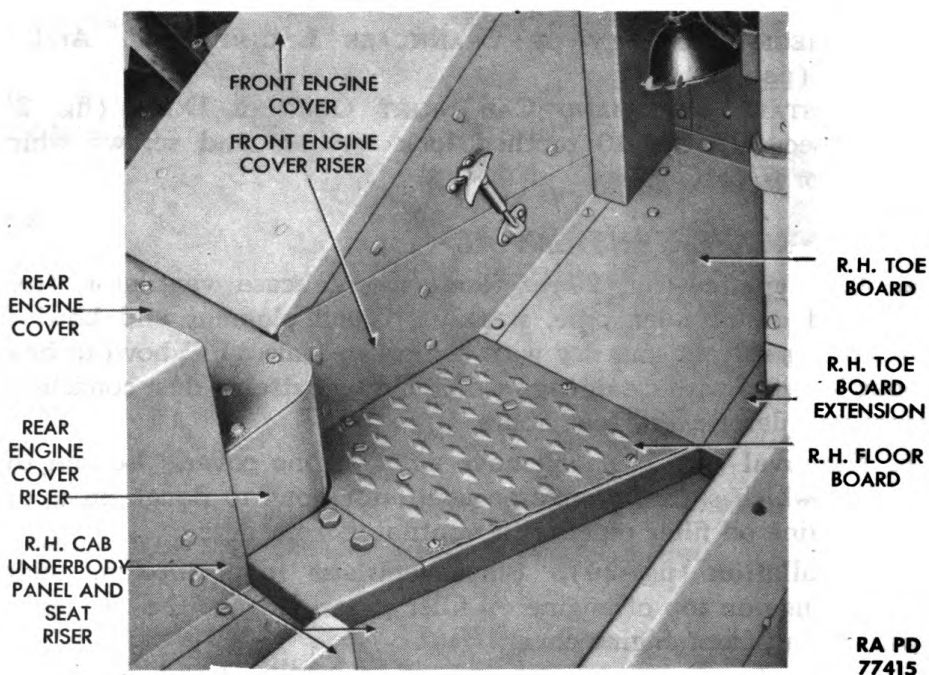

Figure 21 — Floor Boards and Engine Covers — Right Side
(7) INSTALL ENGINE COVERS (fig. 21). Place front engine cover in position over engine and engage the two spring catches. Place rear engine cover plate in position and install toothed lock washers and screws which attach it to its riser.
e. **Remove Front Engine Cover.** Disengage the two latch catches (figs. 21 and 22) which hold cover in place. Remove cover.
f. **Remove Toeboards** (figs. 21 and 22). Disengage left-hand and right-hand toeboards by removing the 14 screws and toothed lock washers which hold them to floor boards, engine cover risers, and toeboard extensions. Remove the toeboards.
bb. **Install Toeboards** (figs. 21 and 22). Position toeboards between floor boards and toeboard extensions. Install 14 screws and toothed lock washers which secure them.
ff. **Install Front Engine Cover** (figs. 21 and 22). Position cover over engine. Secure with two latches.